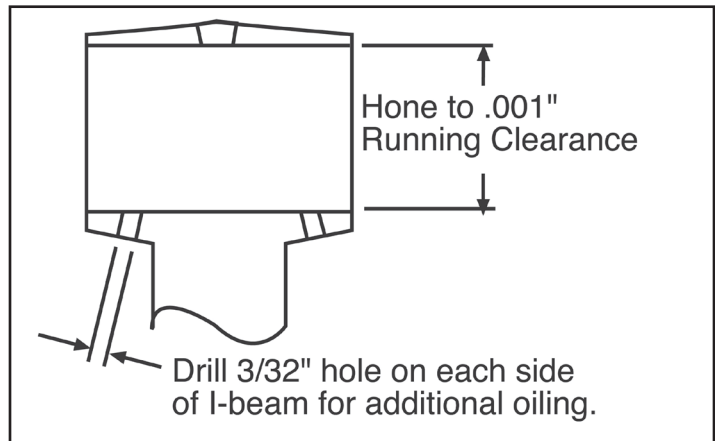

Figure 1
- S&S racing connecting rods utilize a 0.892" diameter wristpin. Refer to **Chart 1** for applications and part numbers. To alter a bushed S&S rod set to be used with S&S racing pistons which are equipped with a 0.892" diameter wristpins, the wristpin bushing must be pressed out, and a 3/32" diameter hole drilled on each side of the I-beam into the pin boss as close to parallel with the I-beam as possible. See Figure 1. After these holes are drilled, the wristpin hole of each rod must be honed to provide 0.001" running clearance.